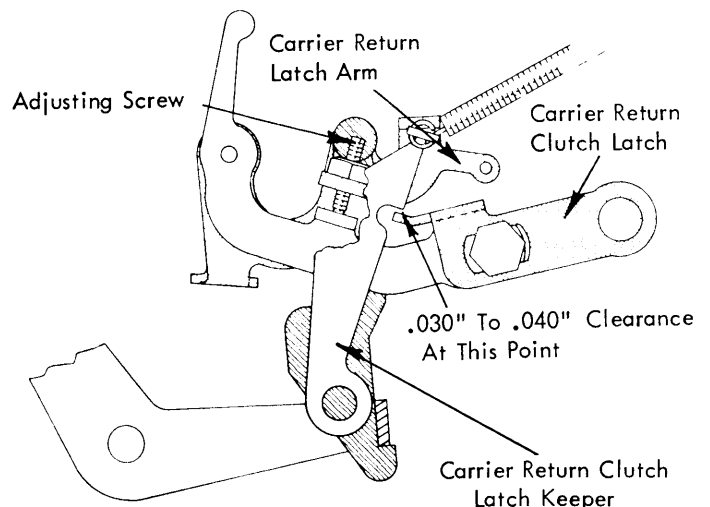

FIGURE 132. Clutch Latch Overthrow Adjustment (721)
3. **Clutch Latch Overthrow (721 only)** - With the platen and feed rolls installed and the index selector lever set in the double index position, manually operate the carrier return cam to the high point while observing the motion of the clutch latch. It should overthrow the latching surface of the keeper by .030" to .040" (Fig. 132). Adjust the carrier return latch arm adjusting screw to obtain this condition.